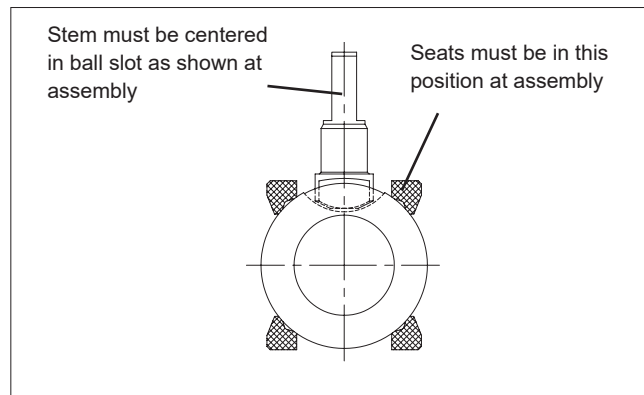
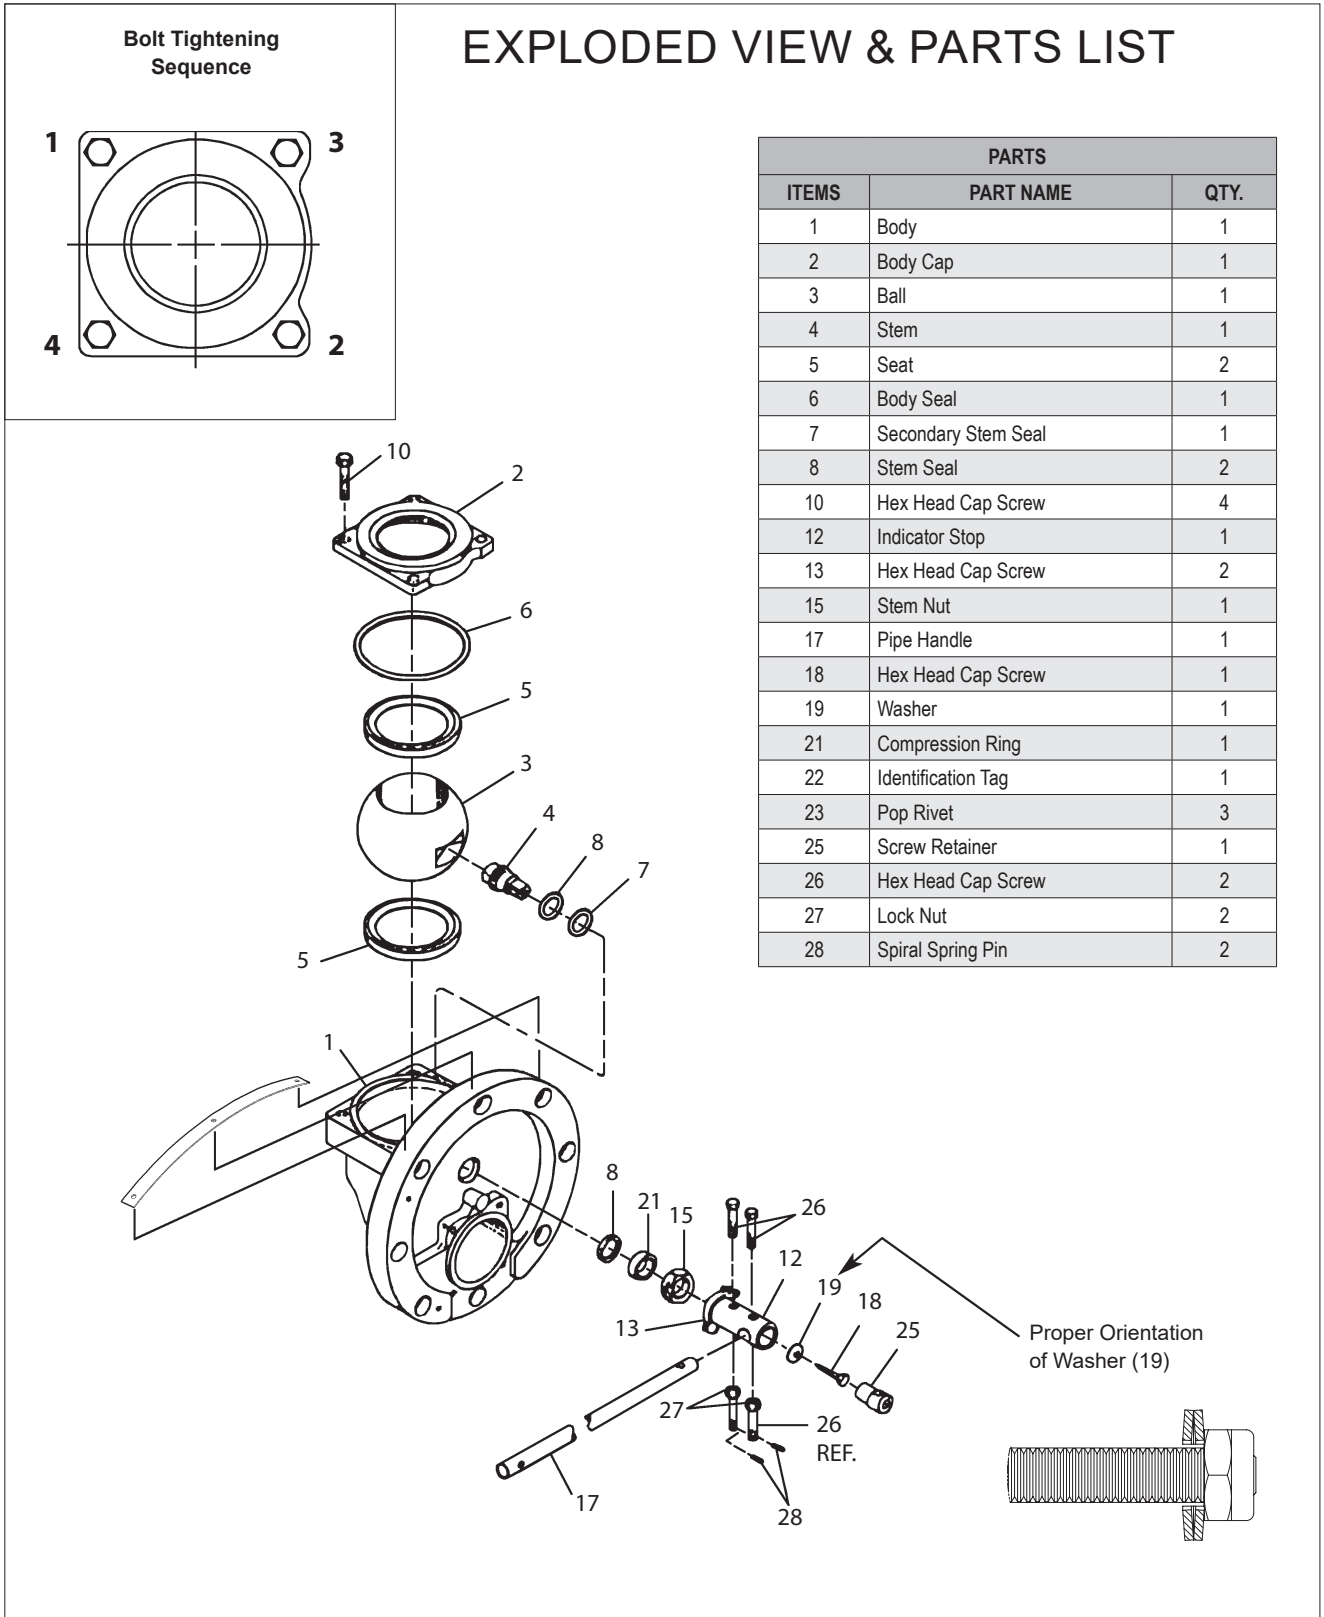

Figure 2. Proper Seat and Ball Orientation
Figure 3.
Although *Jamesbury* valves are designed to work under severe conditions, proper preventative maintenance can significantly help to prevent unplanned downtime and in real terms reduce the total cost of ownership. Routine maintenance consists of tightening the hex nuts (18) in **(Figure 3)** periodically to compensate for stem seal wear. Stem nut torque should be about 240 in-lb. The inspection and maintenance frequency depends on the actual application and process condition.
3. Carefully clean and polish the ball (3) sealing surface: It should be free of all scratches and grooves.
5. With the body cap side facing up, slide one valve seat (5) sideways into the body (1) to below the stem bore, and tilt it into place so that the proper surface (see **Figure 2**) will be adjacent to the ball (3), being careful not to cut or scratch the seat.
6. From inside the body (1), insert the secondary stem seal (7), and the bottom stem seal (8) into the stem bore (see **Figure 3**).
7. Insert the stem (4) through the body cap end of the body (1), being careful not to scratch the stem sealing surface; and press it gently up into the stem bore until resistance is felt from the stem seal.
8. Hold the stem in place from the bottom and insert the top stem seal (8) over the stem (4).
9. Place compression ring (21) over stem (4). Screw the stem nut (15) with the side marked "TOP" being up. Place the stem (4) in the closed position and tighten the stem nut (15) to 70-80 FT·LBS (95-108 N·m).
10. Insert the ball (3) rotating it onto the stem (4) in the closed position. If necessary, turn the stem blade to align with the ball slot. Make certain that the stem blade is in the middle of the ball slot; i.e. equal distance from the ends of the slot. Rotate the ball if necessary (see **Figure 2**).
11. Gently place the body seal (6) into the machined recess of the body (1).
12. Place the second seat (5) into the body cap (2) with the proper surface adjacent to the ball. (see **Figure 2**).
13. Align the body cap (2) over body bolt holes being careful to properly orient body cap and body as originally assembled by matching orientation marks made prior to disassembly. Take care not to damage body seal (6) or seat (5) during this operation.
14. Lubricate the threaded portion of body bolts (10) with NeverSeez® or equivalent. Install body bolts (10) and tighten sequentially as shown in the diagram in **Figure 3**, to the recommended torques as shown in the torque chart (**Table 1**).
15. Place the indicator stop (12) as shown in **Figure 3**, and fasten with washer (19) and hex head cap screw (18). Be sure the washer is orientated as shown. Torque the hex head cap screw to 35 FT•LBS (47 N•m).
16. Place the screw retainer (25) on the hex head cap crew (18) inside of the indicator stop (12). Position the screw retainer so that the hole in the screw retainer lines up with the bottom slot on the indicator stop.
17. Insert the lower hex head cap screw (26) through the indicator stop (12) and screw retainer (25). Assemble lock nut (27) and tighten until the lock nut makes contact with the indicator stop.
18. Drive the spiral spring pin (28) into the hole on the cap screw (26) below the lock nut. Position the spiral pin so that equal amount protrudes on either side of the cap screw.
19. Insert the pipe handle (17). Line up the hole in the pipe handle in the indicator stop (12), and repeat steps 17 and 18 with the upper hex head cap screw (26), lock nut (27) and spiral spring pin (28) for pipe handle assembly.
- c. From **Figure 3**, the ballooned part number, part name and quantity required.